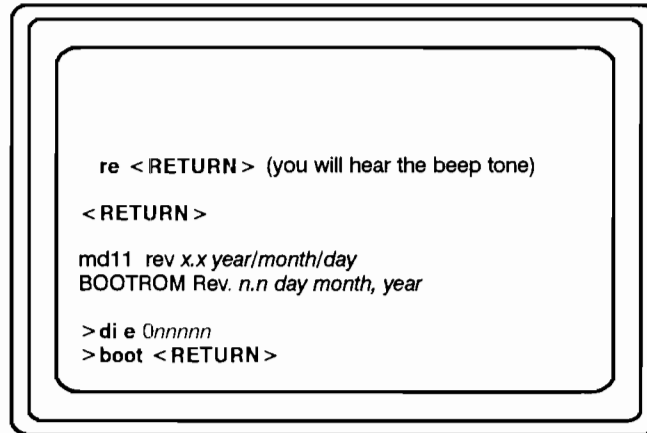

Figure 10-12. Starting Up the Domain/OS Software
8. When “Done.” appears on your screen, type the command shown in Figure 10-12 to start up the Domain/OS software. At initial system startup, this command starts up the Hardware Acceptance Program (HAP) software on disked workstations.